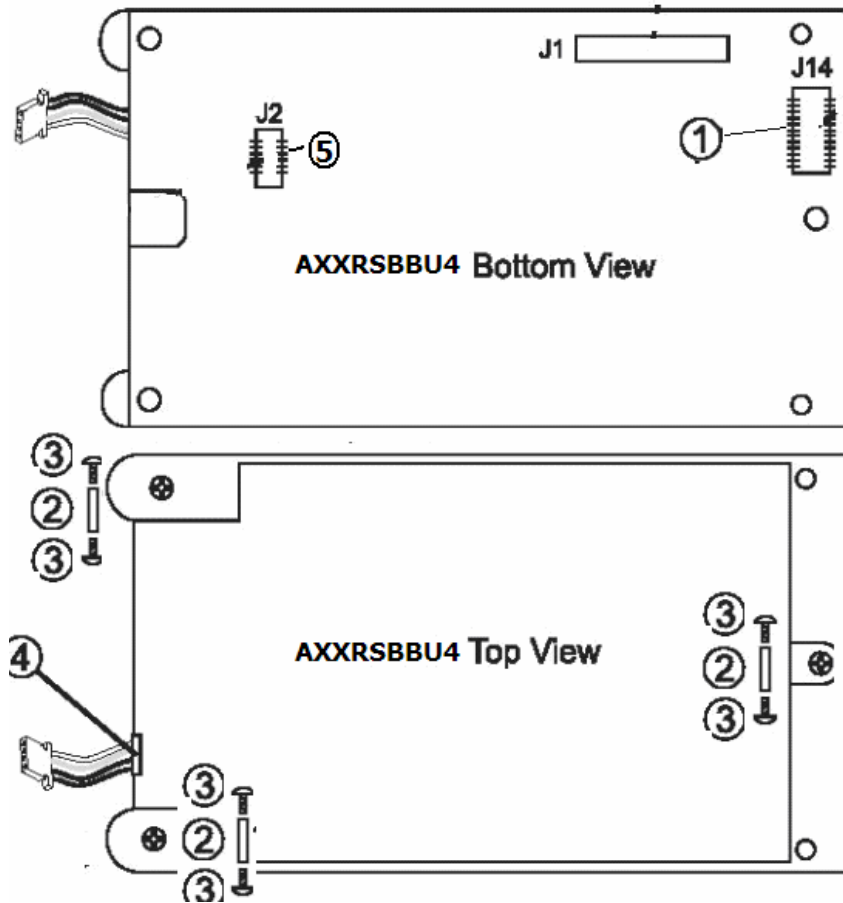

Figure 2-1: Top and Bottom View of the AXXRSBBU4
Figure 2.1 displays the top and bottom views of the AXXRSBBU4. The battery pack is mounted on a daughtercard which mounts to the RAID controller. Take note of the location of the J2 connector (5) which plugs into the Intel® RAID Controller and the 3 standoffs (2) and 6 screws (3). Only the top side of the daughtercard will be visible after installation onto the RAID controller.
2. Insert the battery pack harness connector (4 in Figure 2-1) at the end of the colored wires into the 5-pin J2 connector (5 in Figure 2-1) on the backside of the AXRSBBU4.
5. Place the three standoffs (#2 in Figure 2-1) between the two cards in the three screwholes.
7. Secure the AXXRSBBU4 to the RAID controller with the 6 provided Phillips (2-56) screws (#3 in Figure 2-1). The standoffs are threaded at both ends and a 2-56 screw goes into each end. (Place 3 in from the battery side and 3 in from the RAID controller side.)